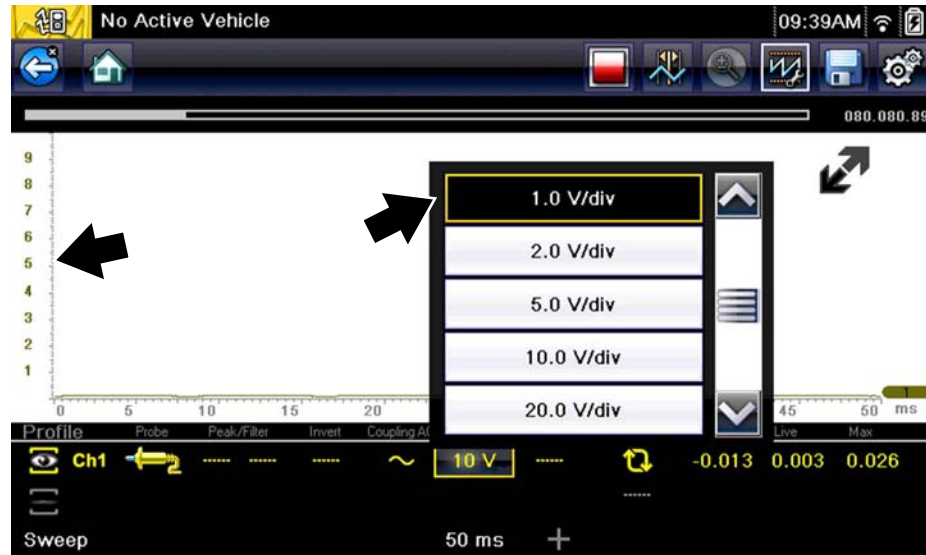

Figure 5-30
**Example (Figure 5-30):** Selecting 1.0V/div, displays a vertical scale divided by 10. The vertical scale is "always" divided by 10, therefore each division is incremented by 1.0V, thus a 10V scale.